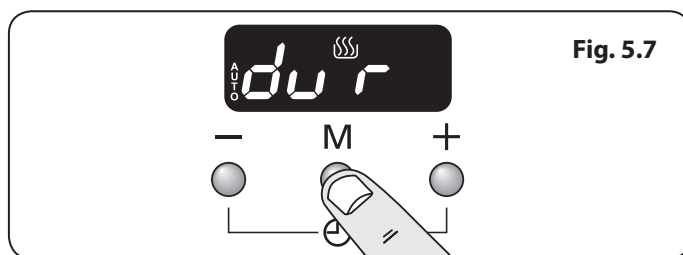

Fig. 5.7
1. Press the mode [M] button until the display flashes 'dur' (**Fig. 5.7**). Then set the 'cook period' using the [+] or [-] buttons.